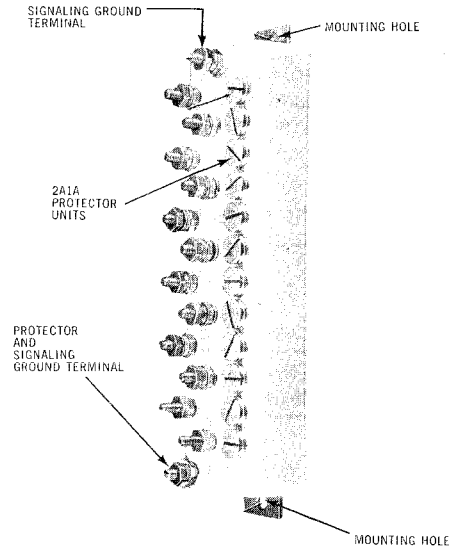

Fig. 4 - 117B Protector (Indoor)
2.05 117B Fuseless Protector, (Fig. 4) signaling ground terminals are located at each end of the terminal block. One of these terminals is arranged to permit installation of a No. 10 gauge wire for protector grounding purposes.